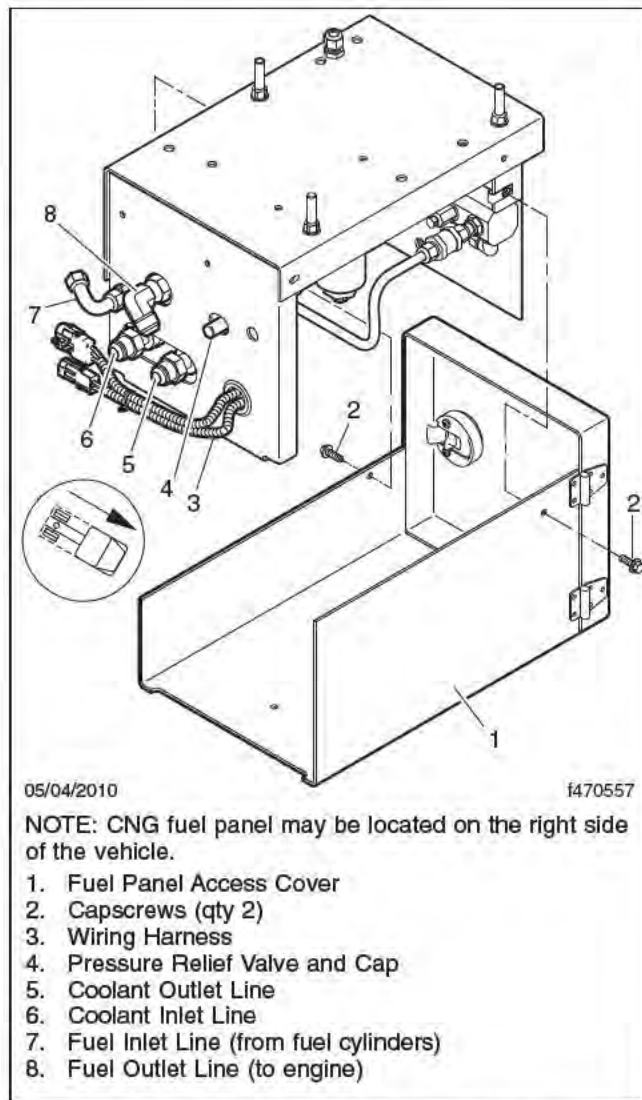

Fig. 2, CNG Fuel Panel Assembly
5. Remove and save the two capscrews that secure the access cover to the fill panel, then remove the access cover. See Fig. 2.